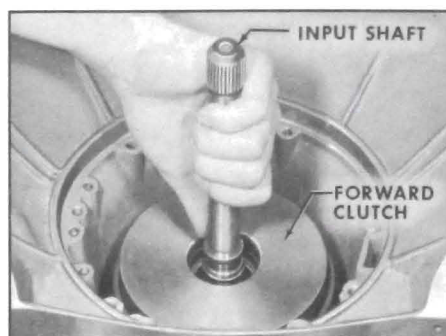

Figure 5-128
1. Remove input shaft from forward clutch drum. See Figure 5-128.